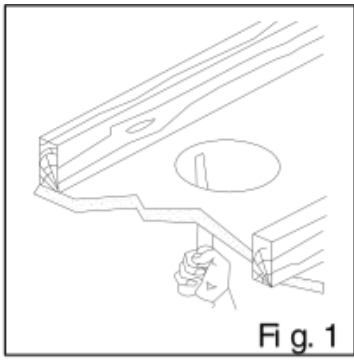

Fig. 1
1. Cut a diameter $\varnothing 155\sim 160$ mm hole in the ceiling. (Fig.1)